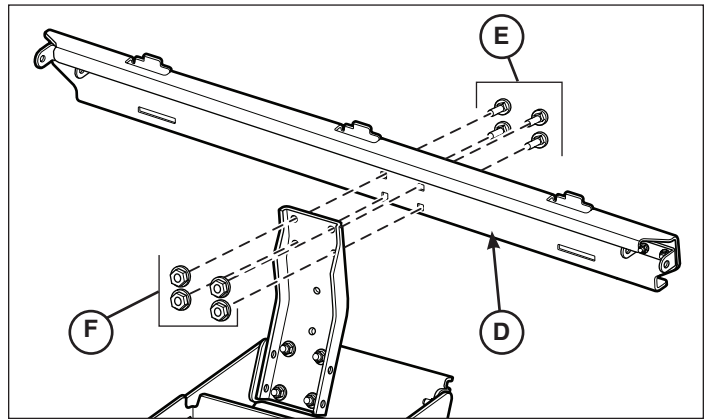

Figure 3
1. Attach the cover support (**D**, Figure 3) onto the hitch assembly with the bolts (**E**) and nuts (**F**).